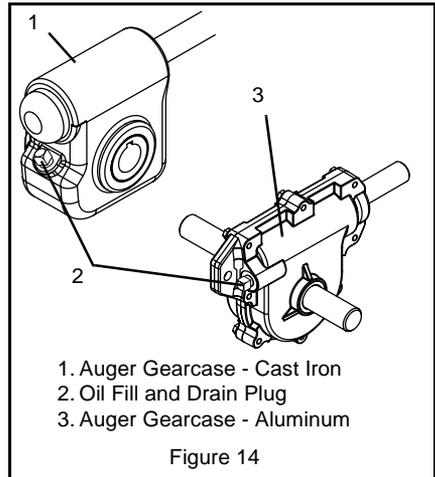

Figure 14
1. Remove filler plug (Figure 14). Lubricant must be at least up to bottom of lubricant filler hole with unit resting on a level-surface.